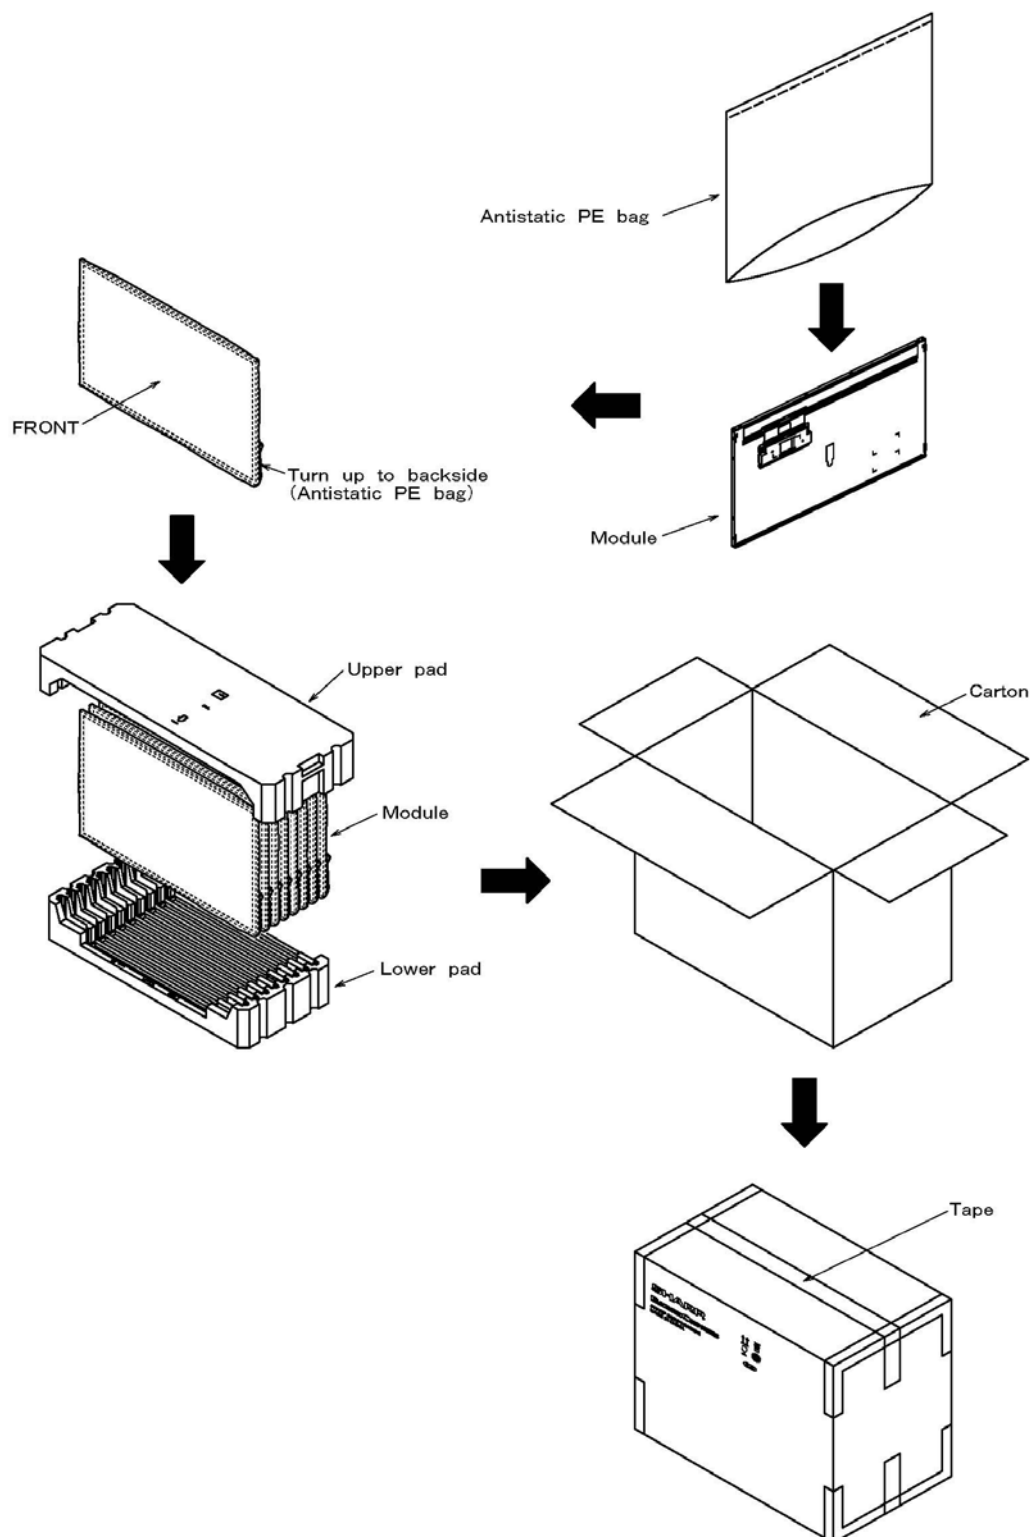

Fig.11-1 Packing form
- c) Carton outer size : 671 mm(W)× 374 mm(D)× 421 mm(H) Typ.
*Packing Form is shown in Fig.11-1